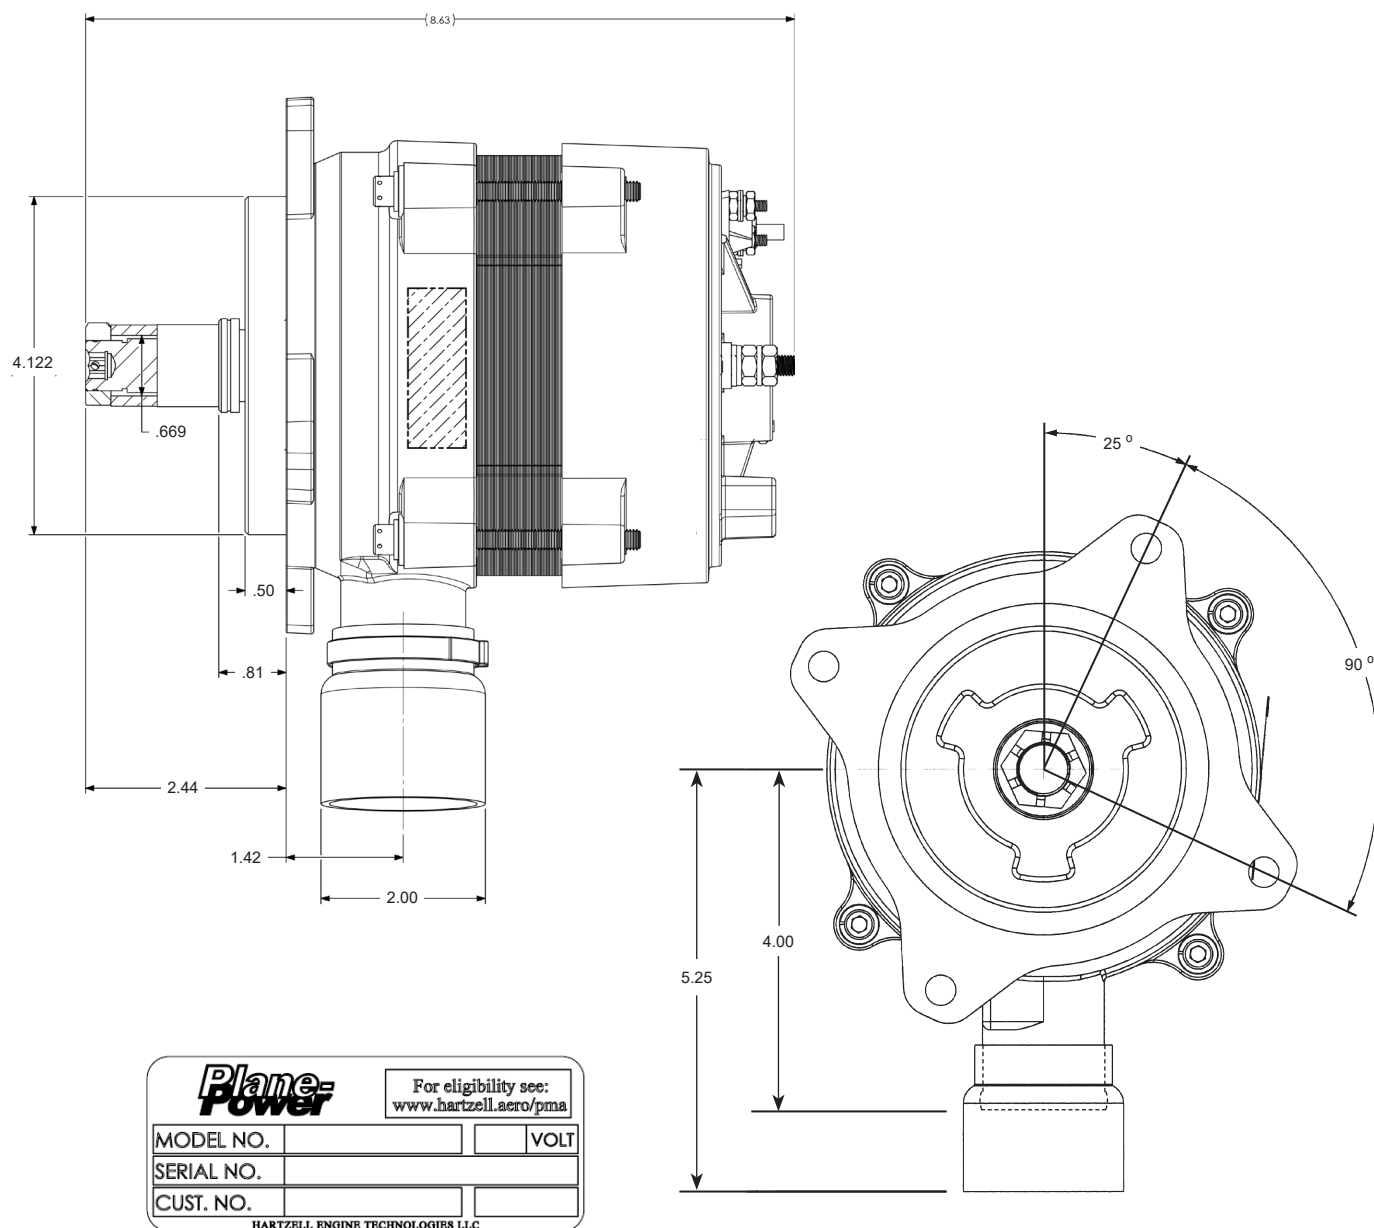

Figure 2.3 ES-10024/ALV-9610 Dimensions
- (1) The basic dimensions of each alternator are shown in Fig. 2.3 thru 2.10.
- (2) The dimensions of the ALV-9610 alternator are the same for the ES-10024 alternator with the exception of the flex cooling duct.